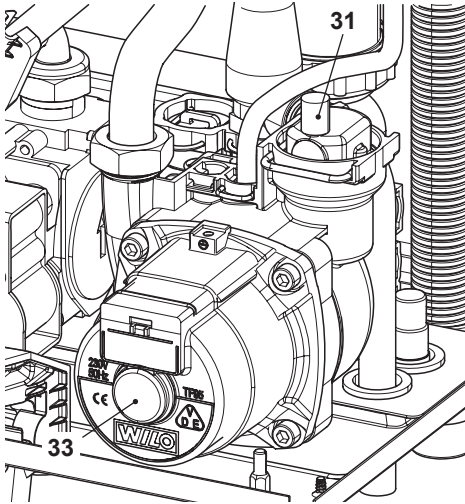

Fig. 7.2
- Lift the plug on the automatic air purger valve 31 in Fig. 7.2 and leave open permanently.
- Purge the air from the pump by unscrewing the pump plug 33 (Fig. 7.2); release the pump shaft by turning in the direction indicated by the arrow on the information plate.